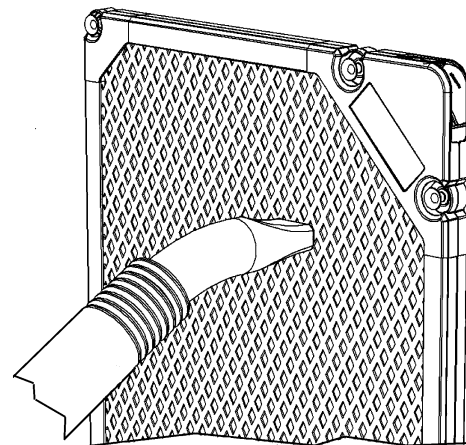

Fig. 7 — Vacuum Outer Screens
6. Vacuum the outside screens to remove all dust and residue. See Fig. 7. The outside screens can be washed with warm soapy water if needed. Be sure to dry screens thoroughly before re-installing electronic air collecting pads.